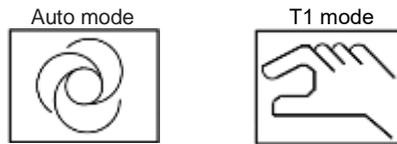

Figure 7.30 Mode selection symbol
4. Please differentiate between the two operation modes with the symbols in Figure 7.30 below: